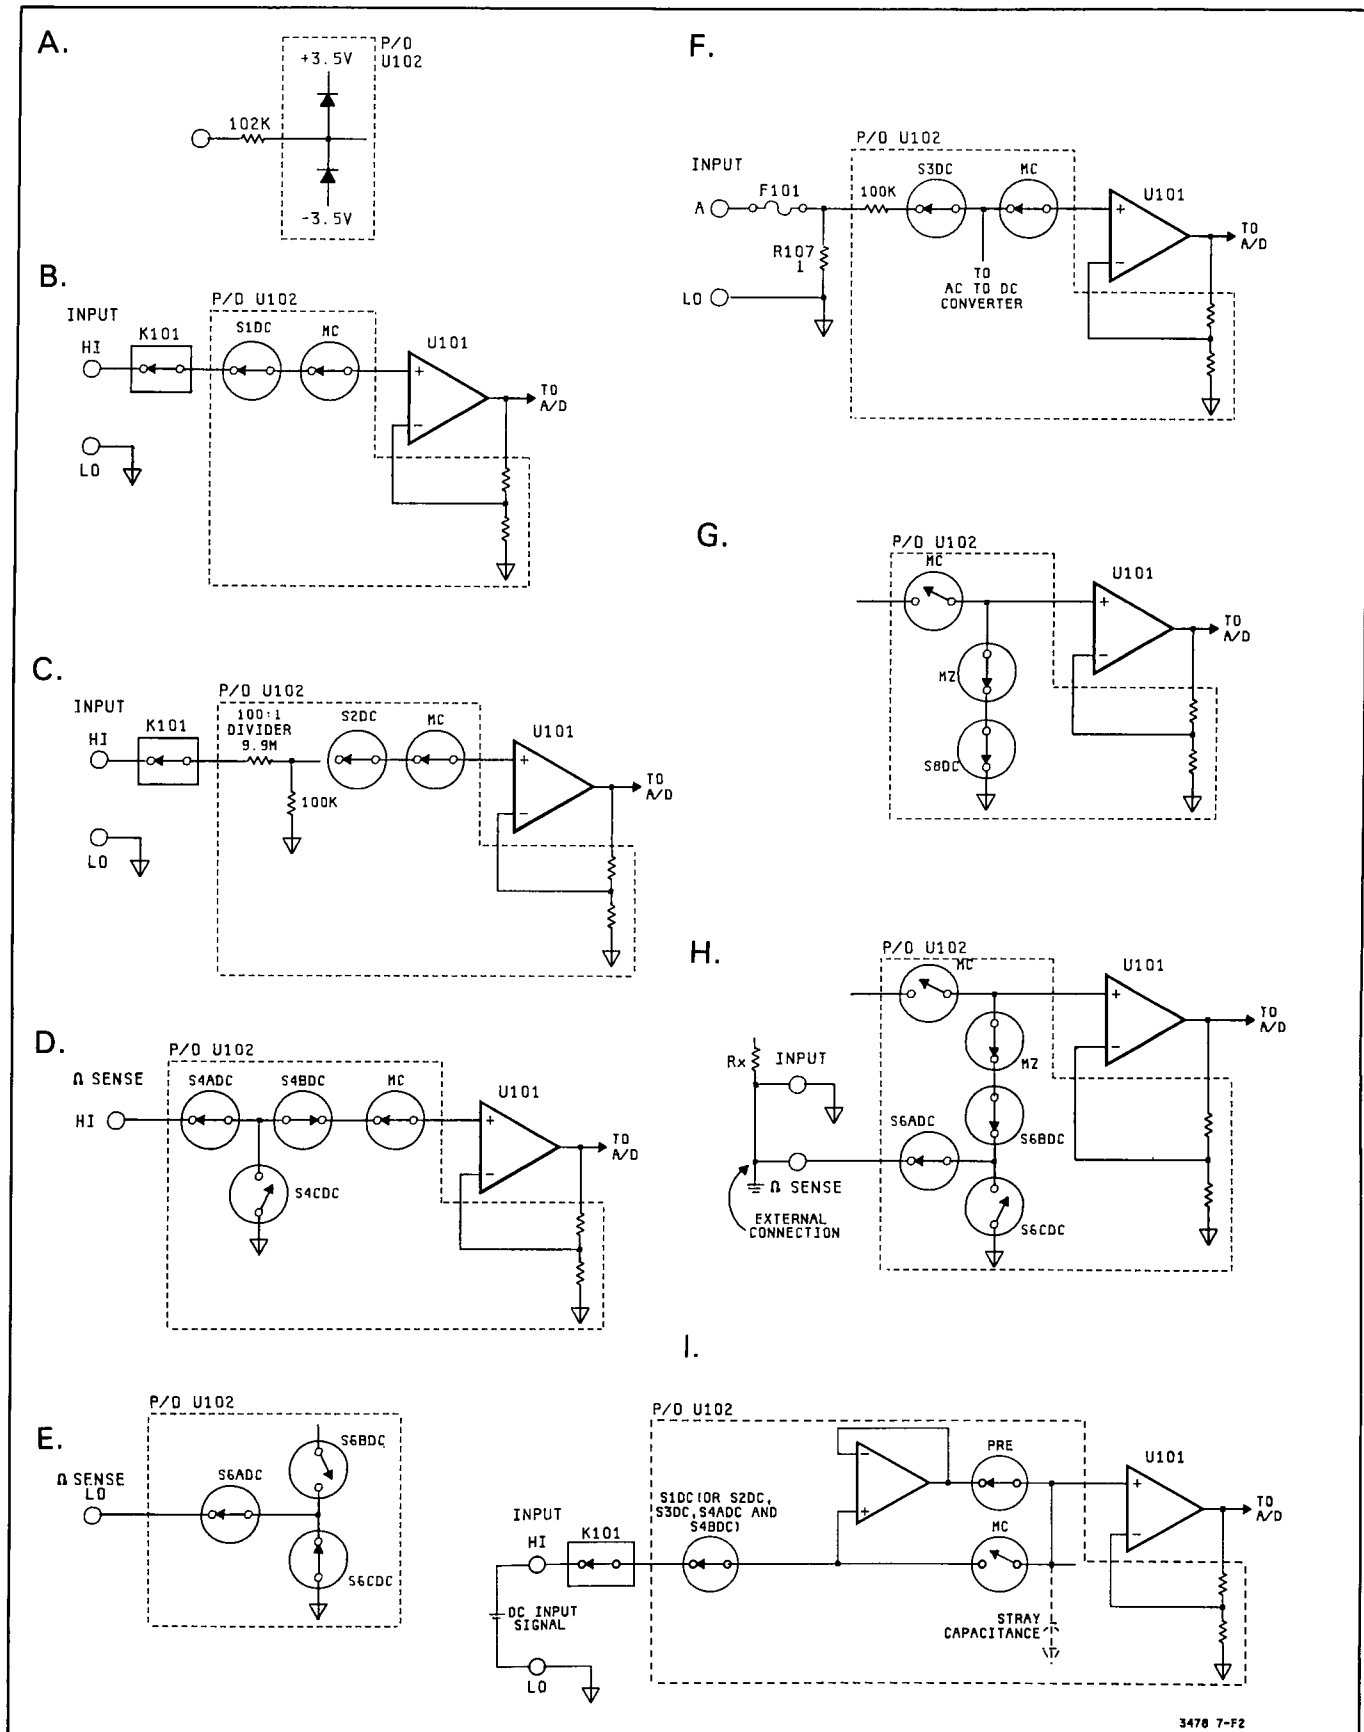

Figure 7-F-2. Simplified Schematic Of The Input Switching Circuitry
b. **Low Voltage Protection.** This circuit consists of diodes connected to the individual input nodes (part of the HI INPUT, LO INPUT, A INPUT Paths, etc.). The diodes on each node are connected (internally in U102) to +3.5V and -3.5V power supplies. If the voltage on a node exceeds either +4.2V or -4.2V, a diode conducts and keeps the level on the node to the $\pm 4.2V$ levels. The difference between the high voltage at the input terminals and the voltage at the input nodes is dropped across the resistors which are in series with the diodes and input terminals (the low pass filter). Figure 7-F-2A shows a typical protection circuit.
7-F-13. Input Switching. The Input Switching Circuitry consists mostly of Relay and MOSFET switches, with most FET switches located in U102. The purposes of the switches are to provide five signal paths to the Input Amplifier and to connect the amplifier for a zero measurement (done in the Autozero Function; see paragraph 7-F-14). The switches are controlled by circuits in U102 which receive their control information from the A/D Controller. The following explains the various input paths. Refer to Figure 7-F-2 and Schematic 1 for the explanation.
a. **Low Voltage Range Input Path (Figure 7-F-2B).** The path consists of K101, R103, R104, R110, and S1DC (S1DC is in U102). The purpose of the path is to connect the HI INPUT Terminal (high input voltage) to the DC/Ohms Input Amplifier. The path is used only in the 30mV through 3V dc volts Ranges and all Ohms Ranges.
b. **High Voltage Range Input Path (Figure 7-F-2C).** The path consists of R110, K102, S2DC (in 102), and a 100:1 divider (9.9M ohm and 100K ohm resistors, RD99 and RD98, in U102). The purpose of the path is to attenuate input voltages by a factor of 100 and to connect the attenuated voltage to the DC/Ohms Input Amplifier. The path is used only in the 30V and 300V dc volts Ranges.
c. **Ohms High Sense Path (Figure 7-F-2D).** This path consists of R105, R106, and S4ADC and S4BDC (S4ADC and S4BDC are in U102). The path connects the HI OHMS SENSE Terminal (high ohms input) to the DC/Ohms Input Amplifier, only when the 3478A is in the 4-Wire Ohms Function. Switch S4CDC (which is also part of the path) is used to connect the junction of S4ADC and S4BDC to ground. Switch S4CDC is closed in all functions except the 4-Wire Ohms Function and shunts any possible voltage on the S4ADC and S4BDC junction to ground.
d. **Ohms Low Sense Path (Figure 7-F-2E).** This path consists of R101, R102, and S6ADC and S6CDC (S6ADC and S6CDC are in U102). The path is used to connect the LO OHMS SENSE Input Terminal (low ohms input) to ground (LO INPUT Terminal), when the 3478A is in the 4-Wire Ohms Function. In the 2-Wire Ohms Function, the low ohms input is the LO INPUT Terminal (which is connected to ground).
e. **Current Input Path (Figure 7-F-2F).** This path includes R107 and S3DC (in U102). The voltage drop across R107 (which is generated by the current being measured) is connected through S3DC to the DC/Ohms Input Amplifier. This path is used only in the DC Current Function.
a. **Autozero (in the DC Volts, DC Current, and 2-Wire Ohms Functions).** In the DC Volts, DC Current, and 2-Wire Ohms Functions, the zero measurement is made with switch MC (measure customer) open, and switch MZ (measure zero) and S8DC closed (see Figure 7-F-2G). Switch S8DC and MZ connects the DC/Ohms Input Amplifier to ground through a 102K ohm resistor. After the zero measurement is made, switch S8DC and MZ opens, and switch MC closes for the input measurement. (Note: MOSFET switches MC, MZ, and S8DC are in U102.)